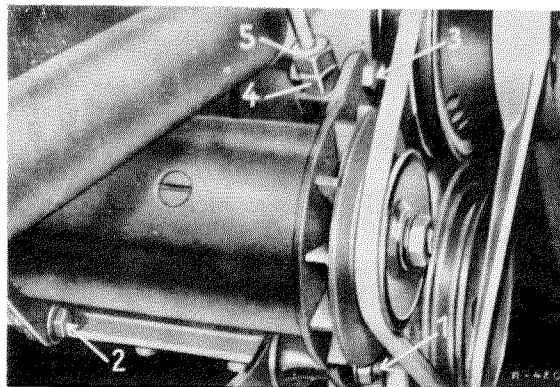

Fig. 50 — 5/2
2. For adjusting or re-tensioning the fan belt, the fixing screws (1) and (2) at the generator
bracket under the generator, the clamping screw (3) at the top next to the adjusting nut and the hexagon nut (5) must be slackened a little (see Fig. 50 — 5/2).